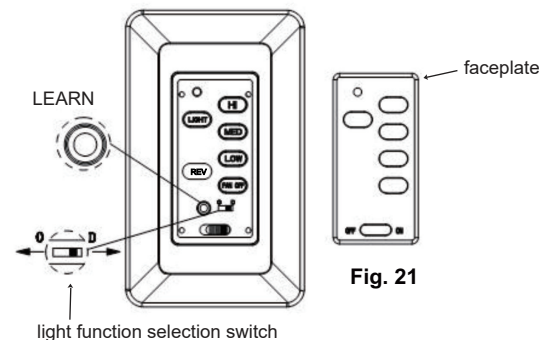

Fig. 21
## ACTIVATING THE LEARNING PROCESS(Fig.21)
1. Use a small flat screw driver and gently pry the faceplate apart from the top of wall transmitter.(Fig.21)
2. After installation is complete, AC power is turned on and **OFF ON** SWITCH is at ON position within 30 seconds,press and hold the LEARN button for 3 seconds. Fan will turn on at medium speed and light (if installed) will turn on. This confirms that the SMART SYNC setting is active and ok. (FIG. 21)
## LIGHT FUNCTION SELECT SWITCH(Fig.21)